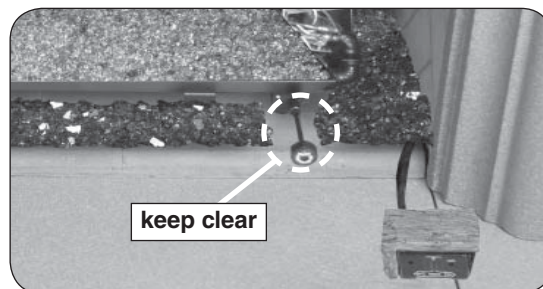

Fig. 21-3 Proper media placement
**CAUTION:** DO NOT place any of this additional media on the burner system, behind it, or under the knob and extension rod (see Fig. 21-3).